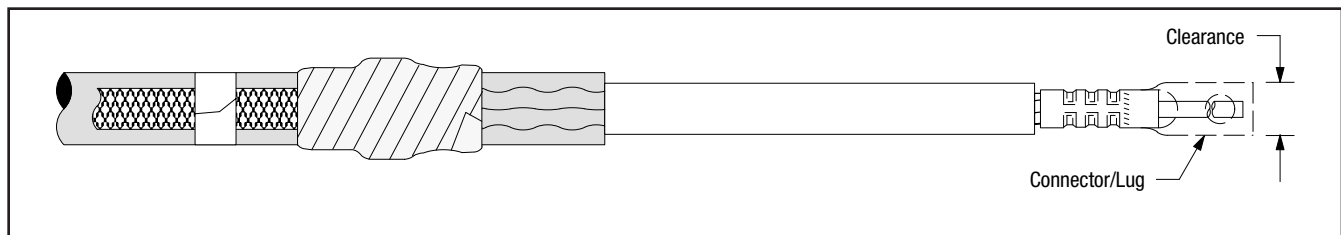

Figure 25
14.1 Check to insure 3M Cold Shrink QT-III Silicone Rubber Termination assembly fits over the selected lug or connector BEFORE installing the lug or connector. If lug or connector. (Figure 25) will not fit through the termination core, clean the insulation (per Step 15.0) and slide termination on cable before installing lug or connector. **DO NOT REMOVE CORE AT THIS TIME.**